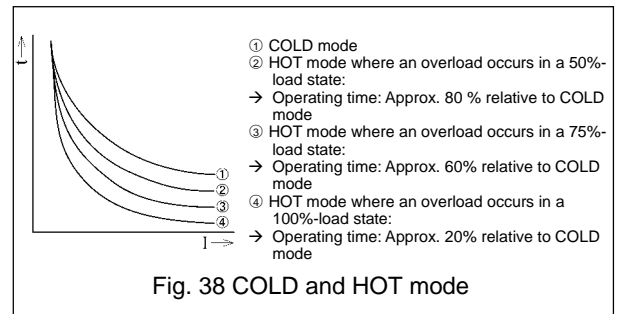

Fig. 38 COLD and HOT mode
- ④ NON setting disables protective functions. If the short time delay trip function and the instantaneous trip (or MCR) function are both attempted to be set to NON, however, the fail-safe operates so that:
- ⑤ A pickup current means the threshold by which the OCR determines whether or not an overcurrent occurs. When the current flowing through the OCR exceeds the pickup current setting provided that $[I_n] \times 1.05 < \text{pickup current setting} \leq [I_n] \times 1.2$, the OCR starts counting the time for tripping. Once the current flowing through the OCR reduces to less than the pickup current setting, time count is reset.
- ⑥ In HOT mode, the OCR is actuated in shorter time than in COLD mode when an overload occurs after a certain degree of load is maintained for a certain time of period. The OCR is factory set to COLD mode. See 5-3-2-6 for how to set the OCR to HOT mode. If the control power is lost, load data stored in HOT mode is cleared. Fig. 38 shows the operating time in COLD and HOT modes.
- ⑦ The short time delay trip function has precedence over the long time delay trip function. The OCR operates at the short time delay trip timing even in those current ranges in which the long time delay trip time setting is shorter than the short time delay time setting.
- ⑧ If DC24V zone interlock power is not provided between ③③ and ③④, the zone interlock is inoperative and the short time delay trip function works with a total clearing time of 50 ms or less when a fault current is detected.